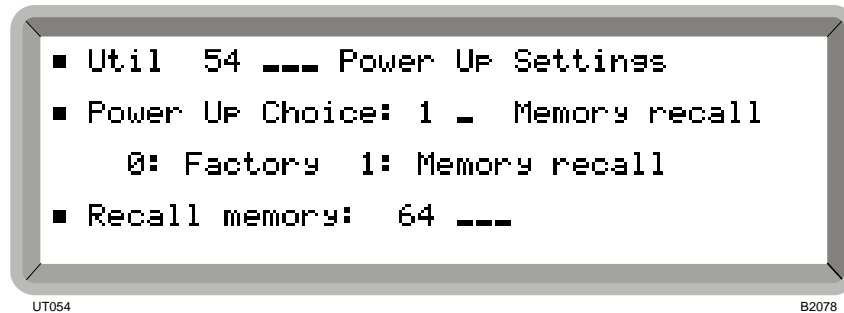

Fig. 4-40 Power-up settings menu
- (1) Select the *Util 54: Power Up Settings* menu. This shows the currently selected power-up choice (see Fig. 4-40).